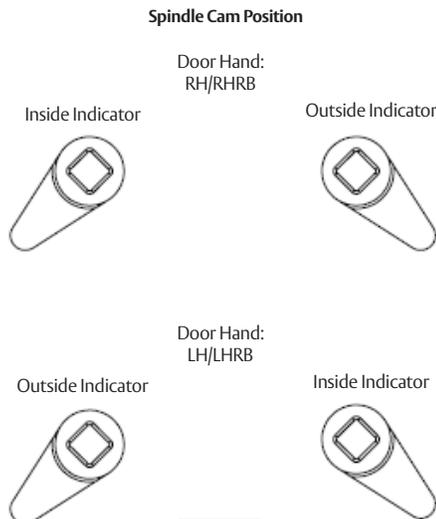

Figure 8
Next, verify inside and/or outside indicators are handed correctly, using Spindle Cam Position chart. (Figure 8) If they are handed correctly, skip to Step 5a Prepare Door. If they are not handed correctly:
2. Position spindle cam in correct direction for door hand. (Figure 8)